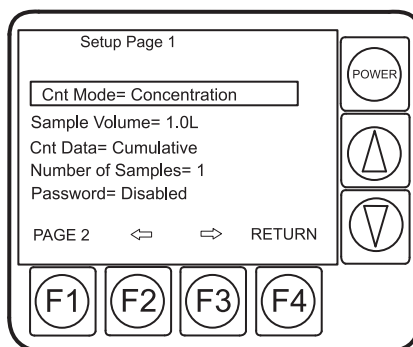

Figure 8 Setup screen, page 1
1. Press **F2** (Setup) on the Main screen. The Setup Page 1 screen is displayed with the current Count Mode field selected (refer to Figure 8 on page 19).